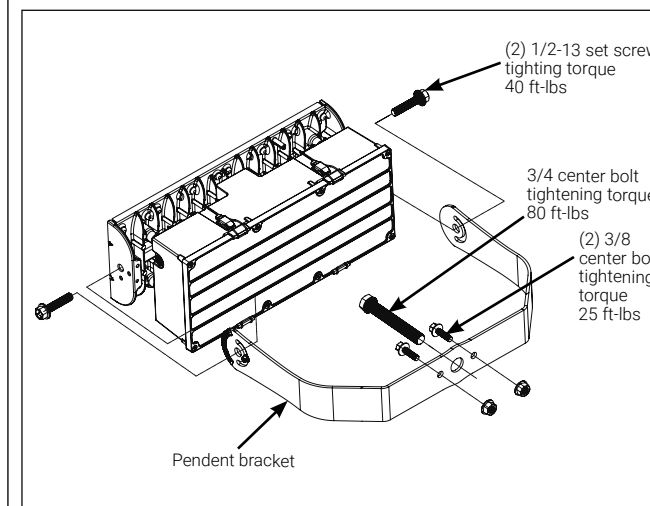
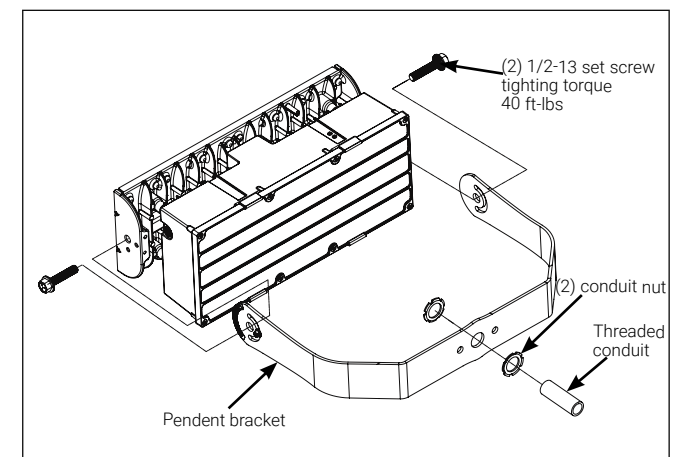

Figure 7.
Figure 8.
Pendant Mounting (Figure 7, 8, 9) Surface mount
- Mount luminaire to a surface ensuring maximum contact across the bottom surface of the pendant. Use hole pattern provided in Figure 8 to properly align the pendant with center hole and 2x .45 holes with spacing of 2.90 inches (Fig 7).
- Rotate Luminaire to desired aiming position and tighten center bolts to 40 ft-lbs (Fig 7).
- Thread the first conduit nut (not supplied) onto the end of the threaded conduit. Place the conduit through the circular opening of pendant luminaire bracket (Fig 8).
- Loosen but do not remove the (2)1/2-13 center bolts of luminaire (Fig 7).